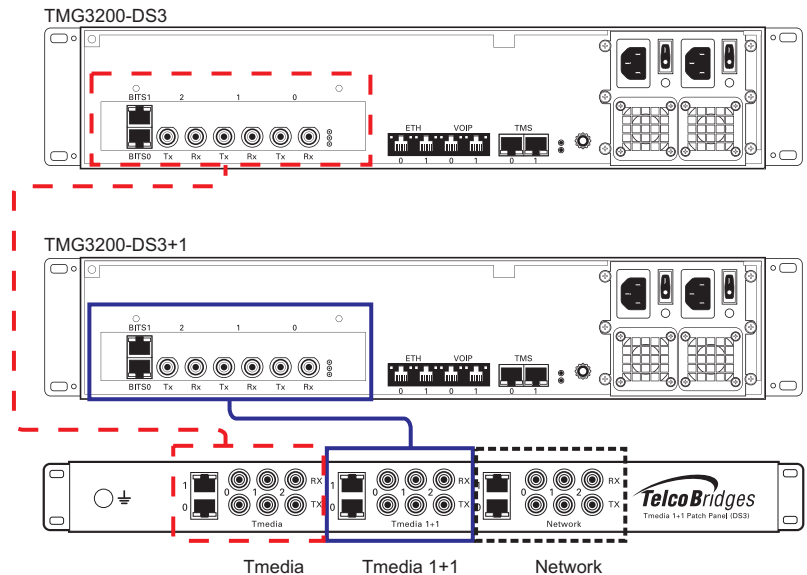

Figure 2.15 TMG3200-DS3 and TMG3200-DS3+1 connecting to the TDM 1+1 DS3 1+1 patch panel
A TMG3200-DS3 and TMG3200-DS3+1 each with 3 sets of BNC connectors enables the connection to DS3 lines. See figure 2.15 on page 38.
1. Connect each DS3 line from the network section of the 1+1 patch panel to the remote equipment. See figure 2.15 on page 38.